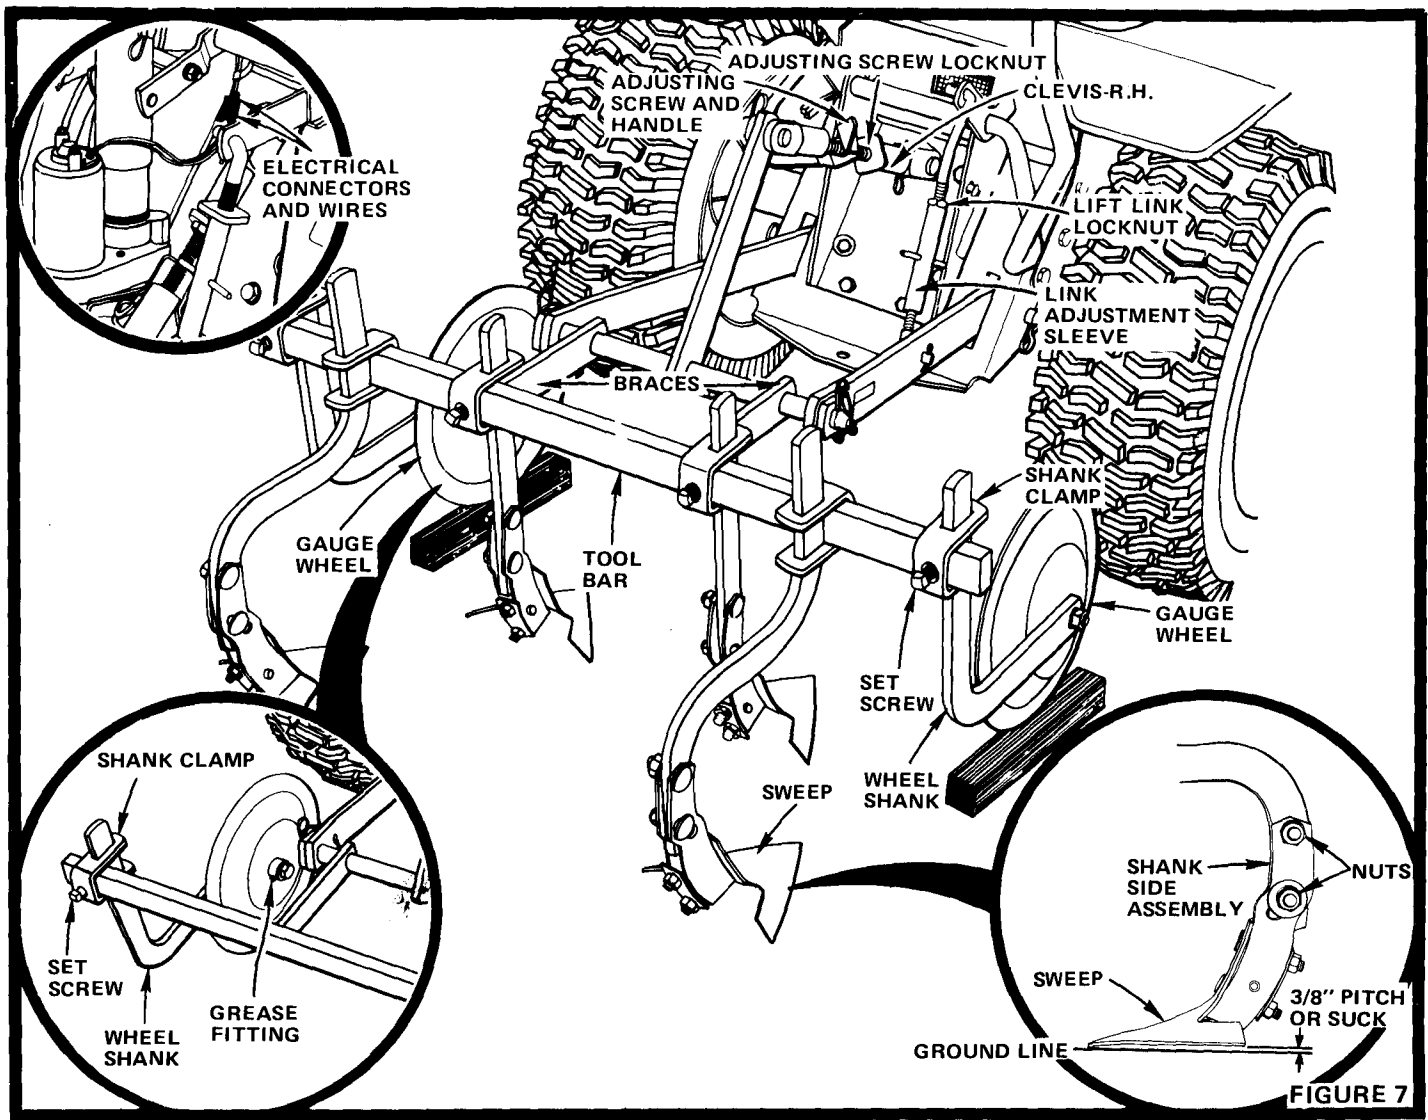

FIGURE 7
1. Loosen Lift Link Locknut (Fig. 7).
1. Loosen Adjusting Screw Locknut (Fig. 7).
1. Loosen the two Nuts in each Shank Side Assembly (Fig. 7 - R.H. - INSET).
1. Adjust Gauge Wheels to meet your requirements for proper penetration of Sweeps or Shovels by loosening the Set Screw in the Shank Clamp and moving Wheel Shanks up or down as required (Fig. 7).
Care must be taken so that operating parts do not interfere with wires on Electric Hitch (Fig. 7 - Upper - INSET).
Frequently (at least every four hours) grease Gauge Wheels thru a Grease Fitting on each Wheel. Use Amdex No. 1 E.P. Grease (or equivalent). Grease each fitting until grease appears around Wheel Hub (Fig. 7 - L.H. - INSET).